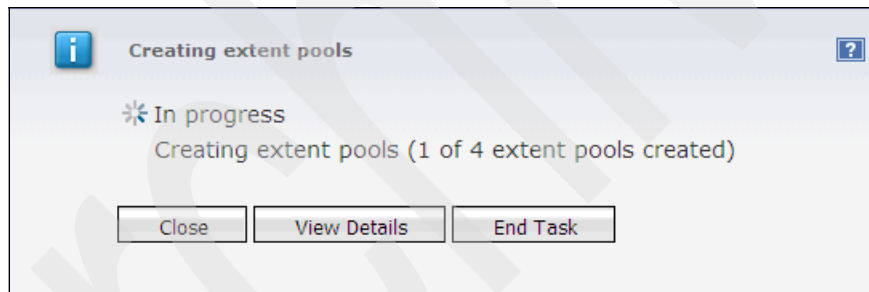

Figure 13-41 Creating Extent Pools: In progress message
- The message shown in Figure 13-41 appears.